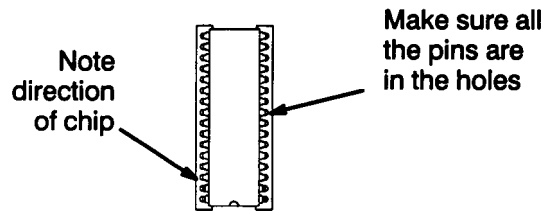

Fig 8
5. Install the new software chip with the last row of pins in the last row of holes. Make sure the ship is facing the correct direction and all the pins are in the holes. See Fig 8.